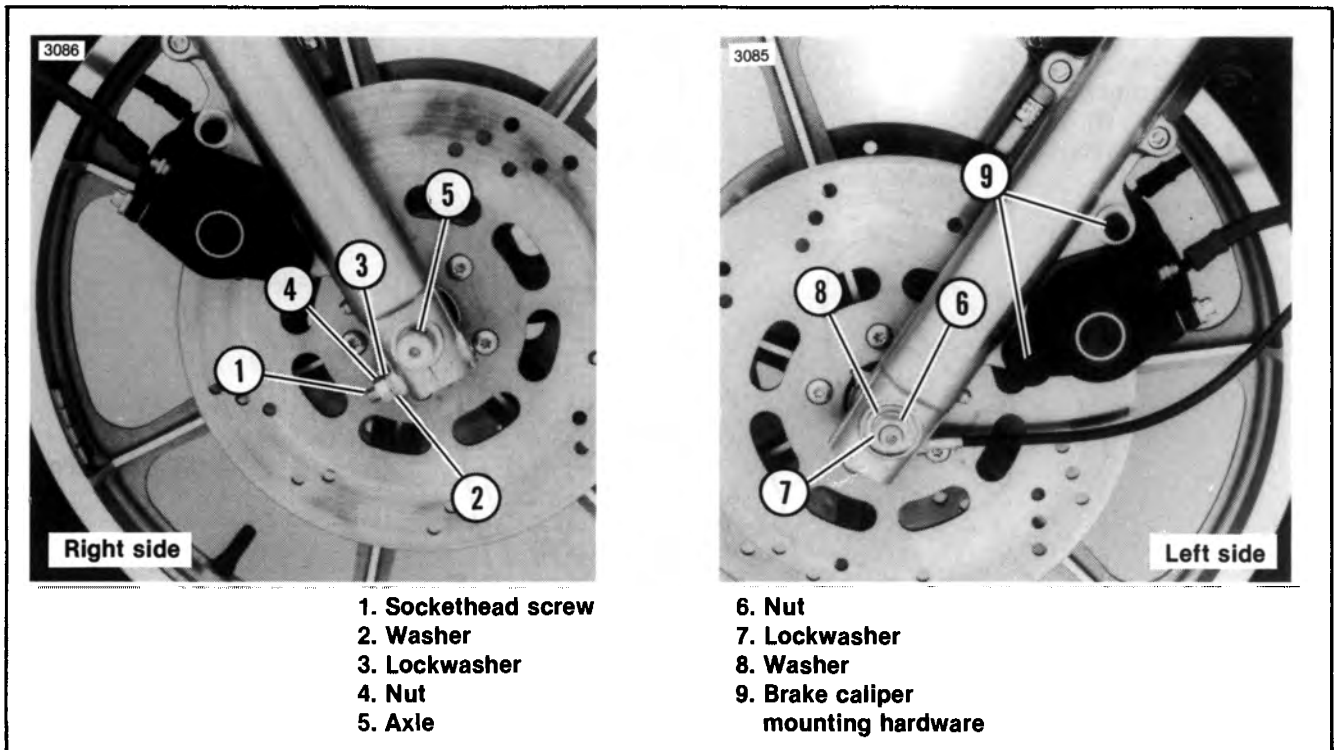

Figure 2-5. Front Wheel Mounting — 1987 FXLR, FXRS Sport Edition and All 1988-1990 Models
(Figure 2-5)**
2. See Figure 2-5. With pinch bolt (1) loose, push axle (5) through right fork side (pinch bolt side) wheel assembly, speedometer drive seal, speedometer drive and left fork side until axle shoulder butts against wheel spacer.
3. Place flat washer (8) followed by lockwasher (7) over threaded end of axle (5).
4. Thread on nut (6). Insert rod or screwdriver through hole in axle (5) and hold while tightening nut (6) to a torque of 50-55 ft-lbs.
5. Tighten pinch bolt (1) to a torque of 21-27 ft-lbs. Check end play before mounting the brake calipers.